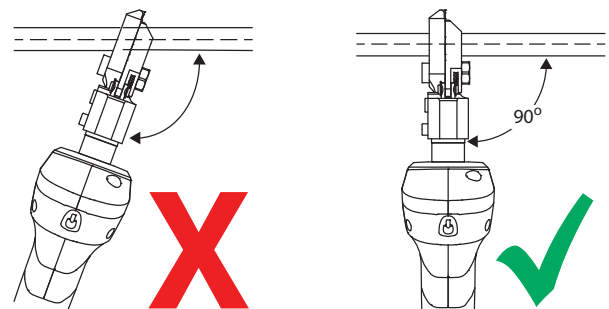

Figure 1
7. Hold tool steady and position tool at a 90° angle to the cable (Fig.1). Do not twist work piece or tool during cutting operation, blade failure could result.